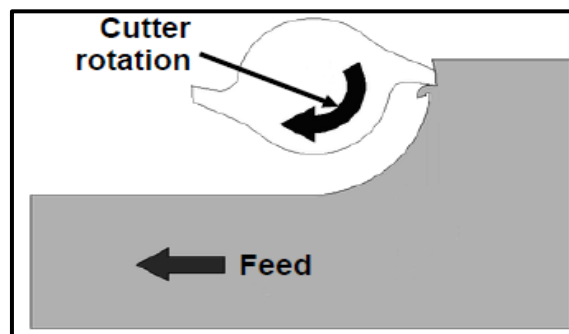

FIGURE 4.2
- (1)
- 4.2 Identify the type of milling operation shown in FIGURE 4.2.